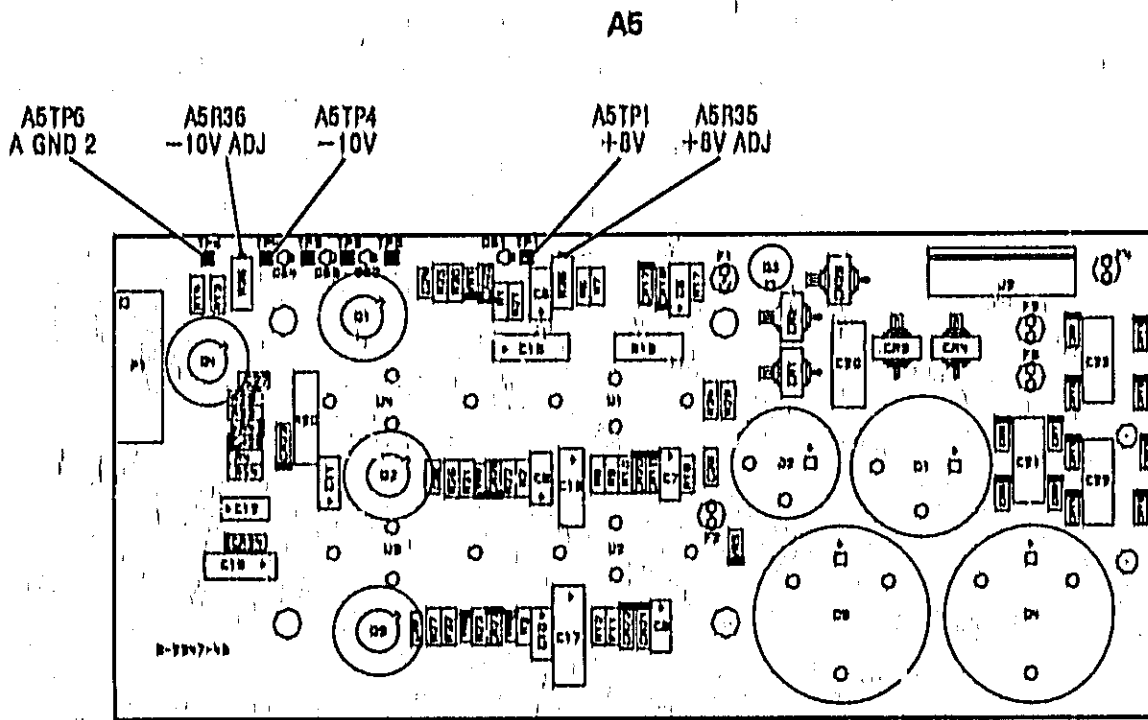

Figure 5-2. Power Supply Assembly Adjustment Locations
3. Connect the DVM LO terminal to A5TP6 (A GND 2), and the HI terminal to A5TP1 (+8V). Refer to Figure 5-2 for A5 power supply assembly adjustment locations.
4. Adjust A5R35 (see Figure 5-2) for a DVM reading of $+8.000 \pm .001$ Vdc.